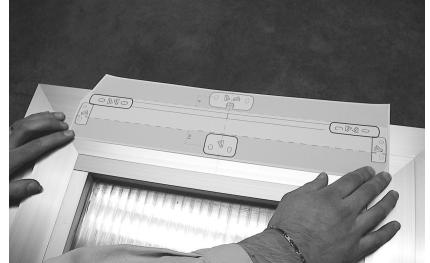

Figure 7
- D. Attach the template to the window frame (fixed part) and line axis up with the centre line "X" traced earlier (Fig. 7). Warning: for window frames not on the same plane, cut the part of the template coloured in grey and fix this to the moveable part of the window frame, taking care to keep it in the same position.